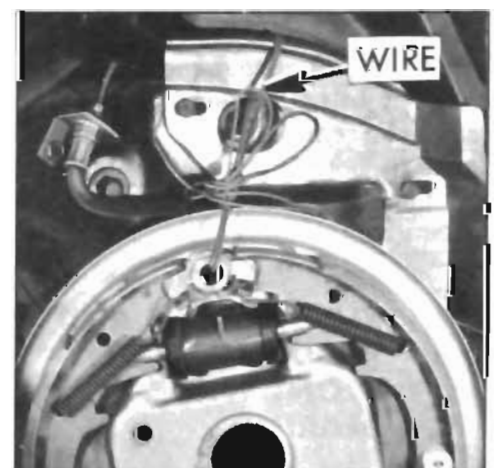

Figure 7-13—Wiring Brake Drum to Frame Flange
8. Support the brake drum assembly by wiring it to the frame or sheet metal out of way of work area. See Figure 7-13.